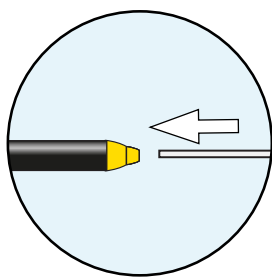

Fig 7.
6. Push the other end of the carbon fibre rod into the yellow connector on the arm section. (Fig 7)